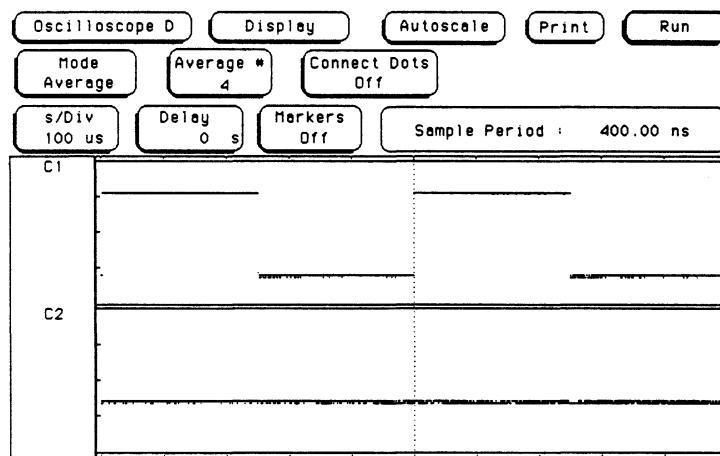

Figure 4-27. Square Wave Response
g. Adjust R17 for flattest square wave response. See figure 4-27. Allow a few seconds after each adjustment for averaged display to stabilize.